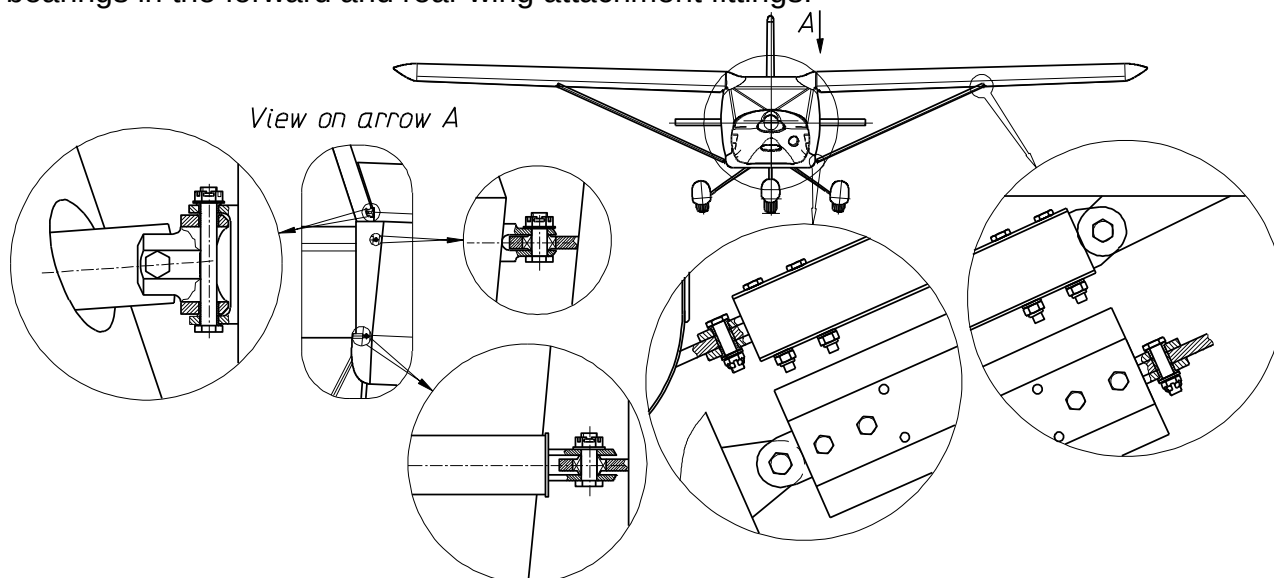

**Fig. 21 Wing removal**
Left and right wings shall be removed in turn (in any order) according to the following sequence (see **Fig. 21**):
4. Disconnect the full and static pressure lines at their joints (left wing, see **Fig. 21**).